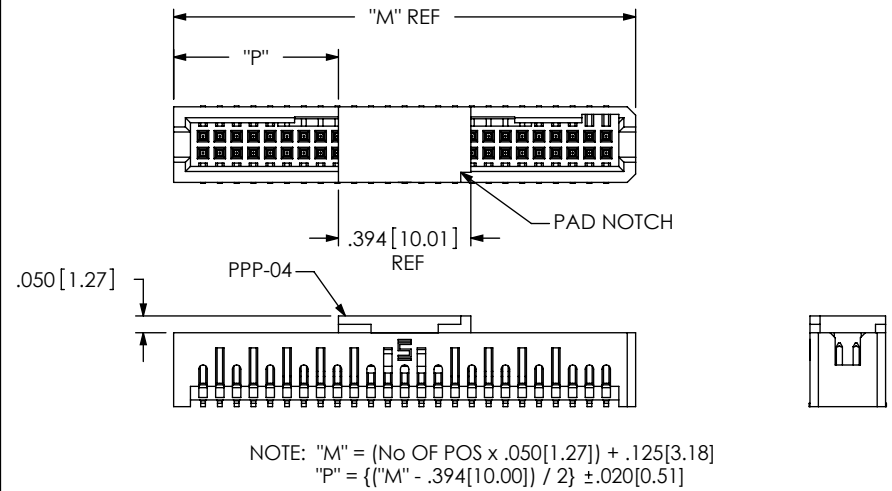

FIG. 4
-RA: RIGHT ANGLE (LEAD STYLE -01 ONLY) (SEE FIG. 4, SHT 2)